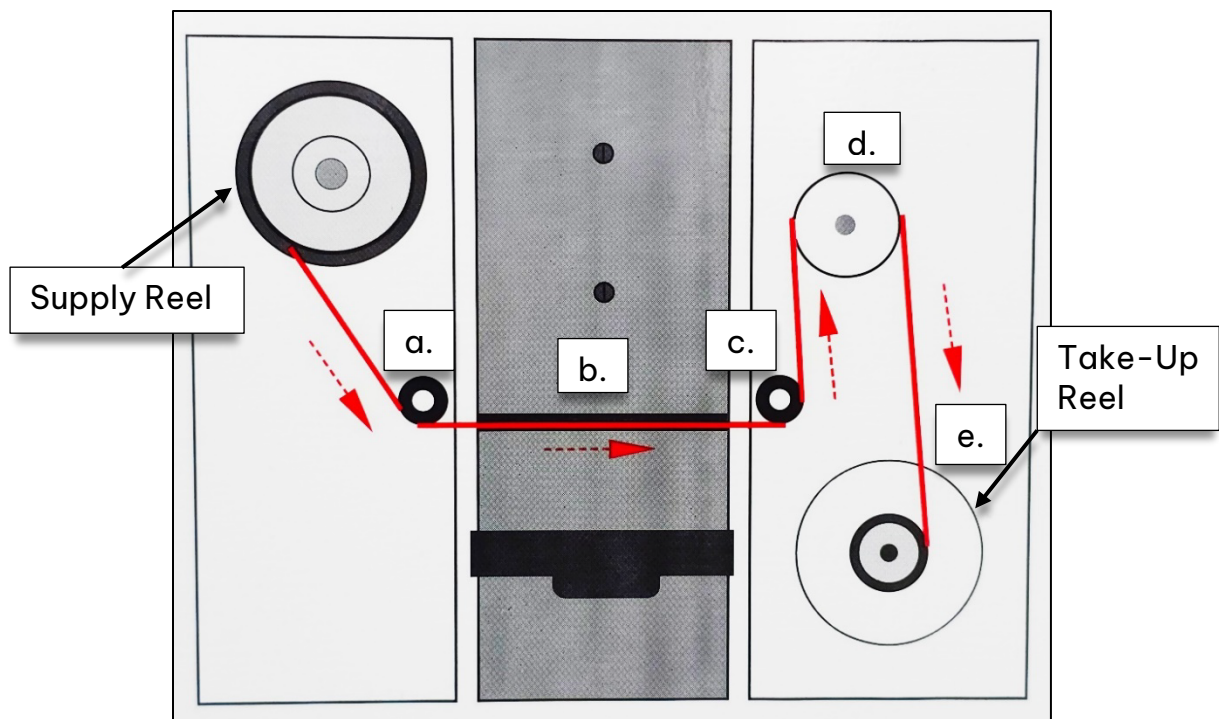

Figure 4-17 Filter Tape Routing
4. Route the filter tape exactly as shown in **Figure 4-17**.